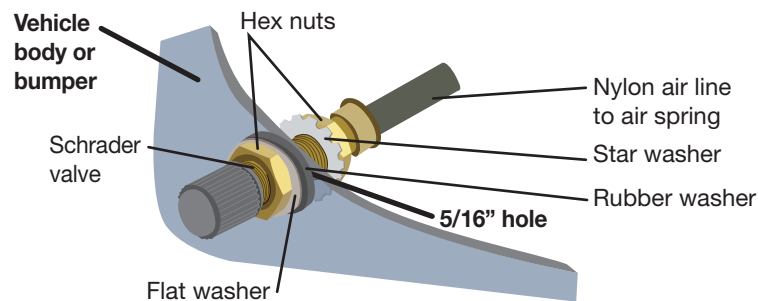

fig. 17
3. Install the Schrader valve in the chosen location (fig. 17).